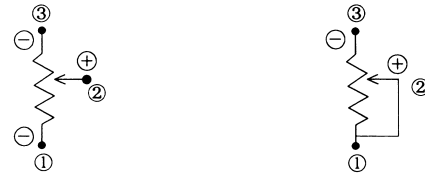

Figure 4
5. Applied Voltage. When DC voltage is applied, local resistance may be abnormally high depending on how the trimmer potentiometer is connected. Always connect the positive (+) current to the wiper terminal as illustrated in Figure 4.